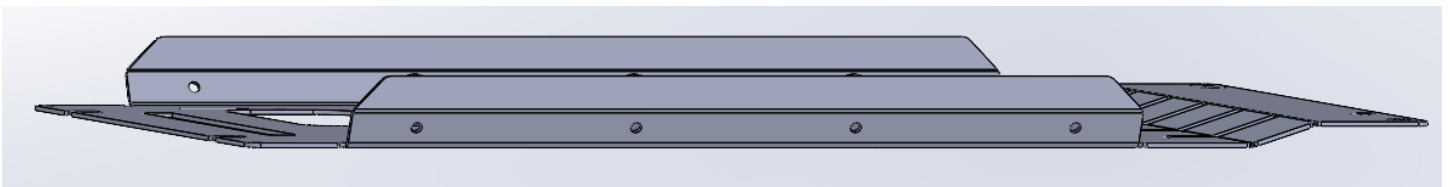

FIGURE 4
- 9) Once pilot holes are drilled. Swap to the 3/8" drill bit and drill out all four locations with a pilot hole. (Figure 4)